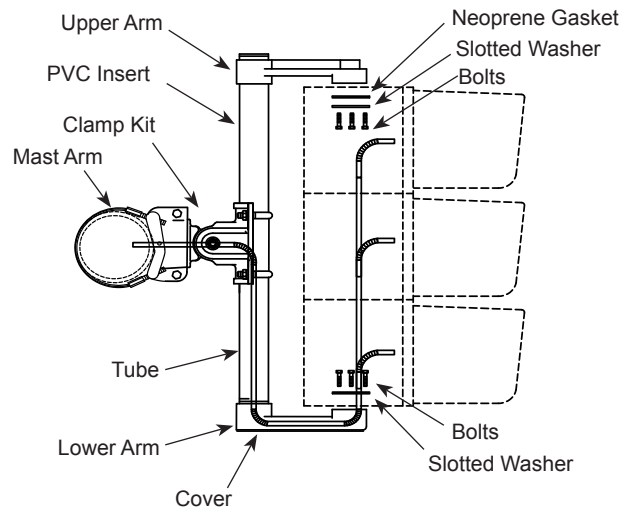

Figure 3
11. Position the lower arm centered on the signal with the tube channel in the back. Using the hardware kit(s) without the neoprene gasket(s), mount the arm to bottom of the signal(s). Torque the bolts to 6 ft-lb. (Figure 3) **DO NOT OVERTIGHTEN.**
13. Slide the upper arm(s) down over the top of the tube and secure to the signal(s) using the hardware kit(s) with the rubber gasket(s). (Figure 3)
18. Route the wiring through the tube, through the lower arm, and to the signal connections. (Figure 3)